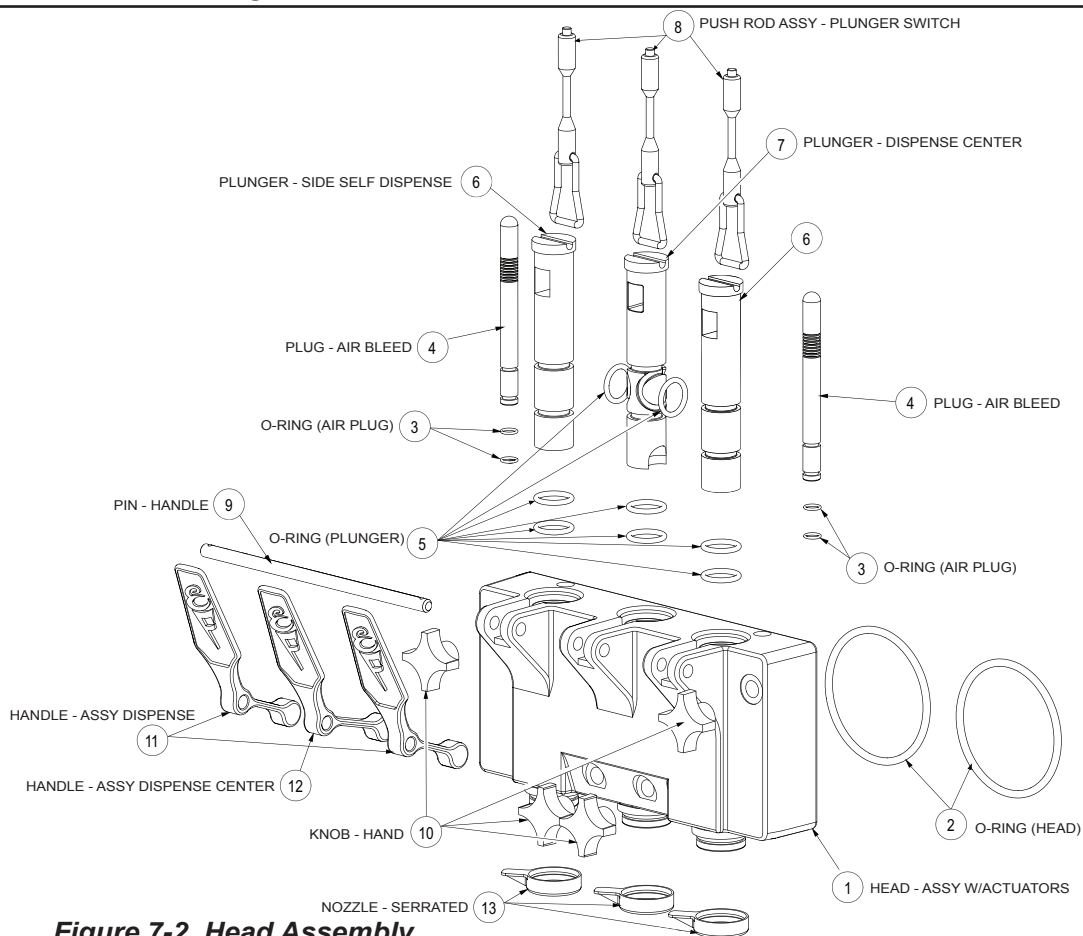

Figure 7-2 Head Assembly
2. Remove the plunger rods (8, figure 7-2) by lifting up and swinging the bottom out and down. Remove hand knobs (10) and pull the dispensing head (1) straight out.
6. Remove the air bleed plugs (4) and remove the two O-rings (3).